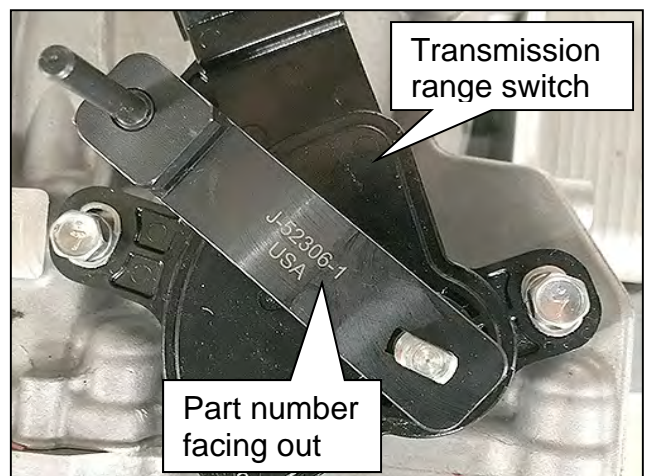

Figure 214
b. Attach the combined alignment tool onto the manual shaft as shown in Figure 214 with part number facing out.
c. Install the two original bolts for the transmission range switch (Figure 214).